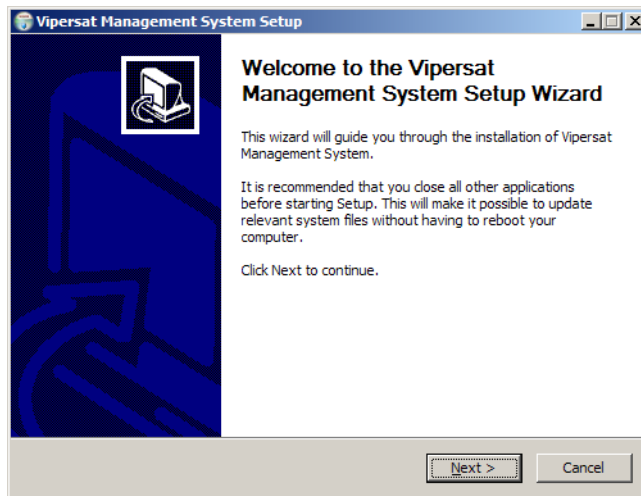

Figure 2-12 Setup Wizard Welcome screen
2. After starting the VMS installer, the **Vipersat Management System Setup Wizard** welcome screen, shown in figure 2-12, is displayed. Click the **Next** button to continue.